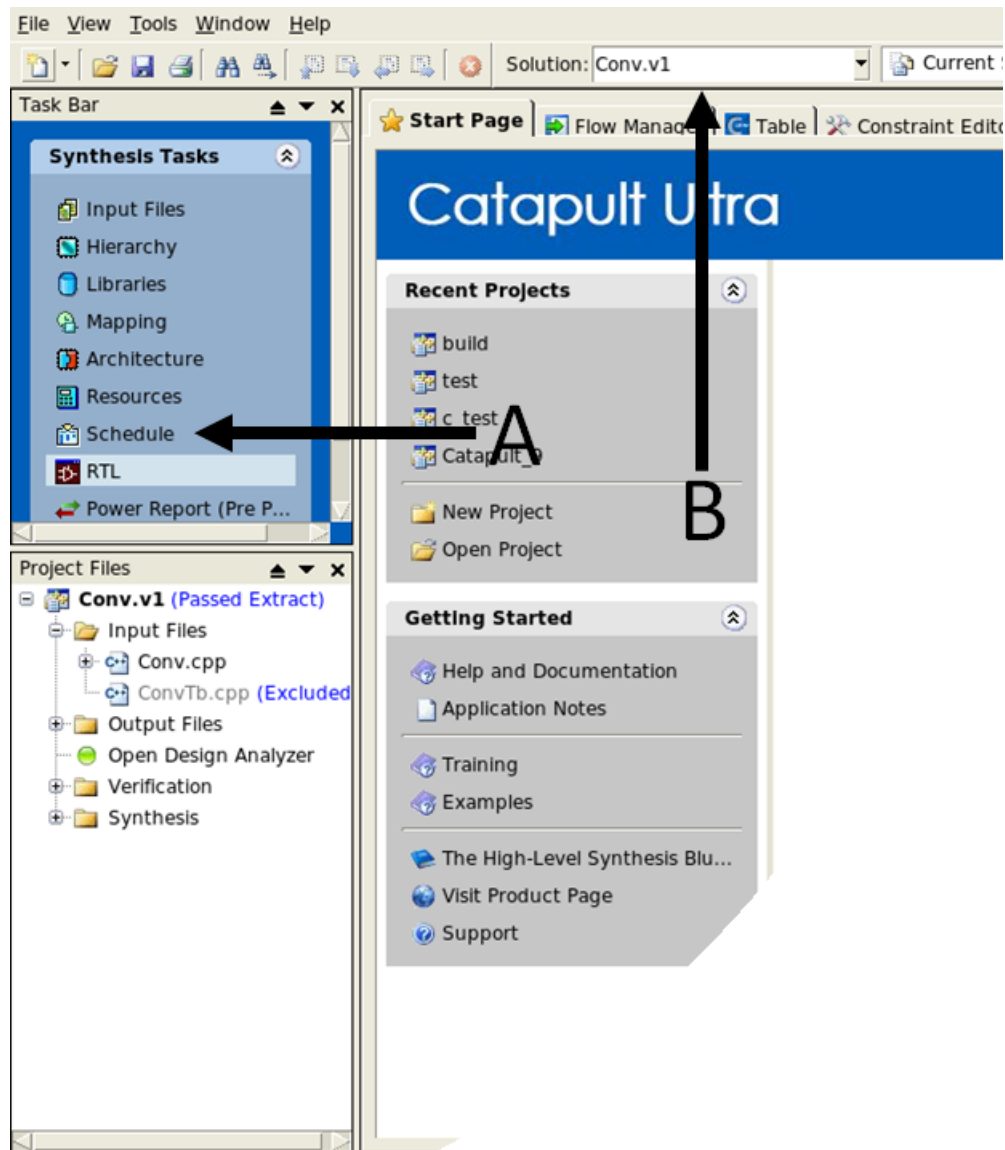

Figure 4: Click on (A) to switch to the Schedule step and click on the dropdown in (B) to switch between blocks.
- You will also need to look at the schedule for each block. Click on the Schedule tab to open up the schedule for a block. Select between the different blocks in your design in the dropdown as shown in Figure 4. Since optimization is not done in this homework, your throughput will likely be bad. In the next assignment your goal will be to optimize the performance of your design. (Get a head start by understanding the Catapult scheduler early!)